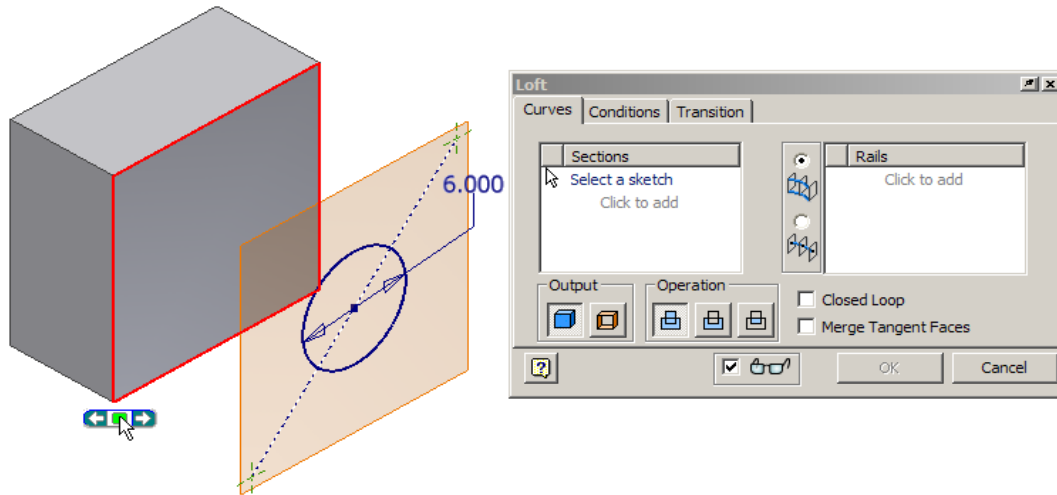

Figure Step 10
**Step 10** Select the edge of the face as first section. See Figure Step 10. Click Click to add again in the Sections area.